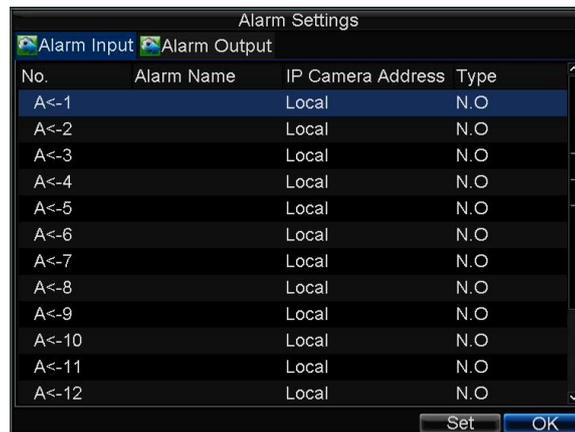

Figure 8. Alarm Management Menu
1. Click Menu > Settings > Alarm to enter the Alarm Settings menu, shown in Figure 8.